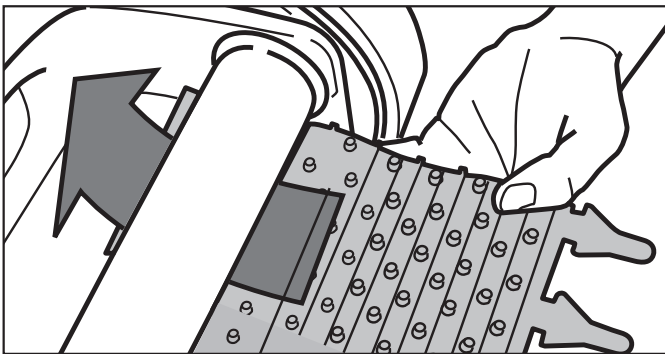

Figure 25. Position the New Brush on Roller
3. Position the new brush underneath the roller with spikes facing downward (see Figure 25).